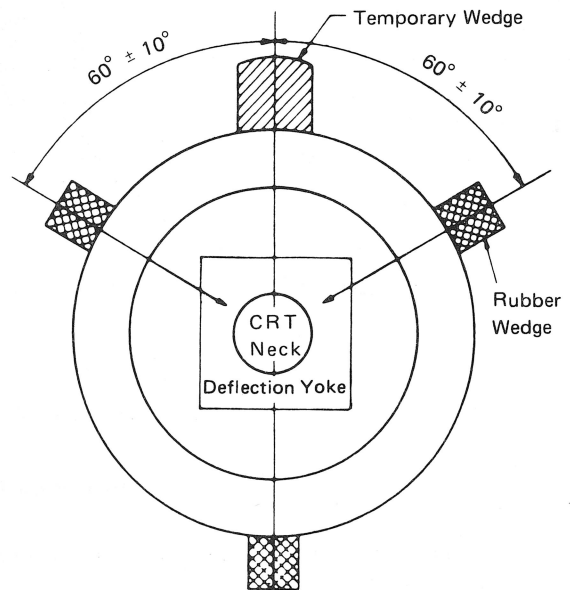

Fig. 14
#### 4.15 Precise Adjustment of Dynamic Convergence (See Figs. 14 and 15)
- Insert three rubber wedges to the position as shown in Fig. 14 to obtain the best circumference convergence.
- The angle of each rubber wedge is shown in Fig. 14.